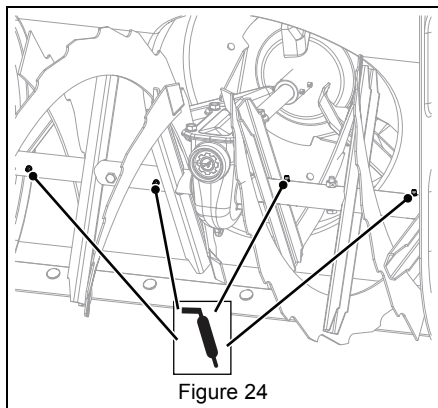

Figure 24
2. Apply grease at the grease zerks. See Figure 24.